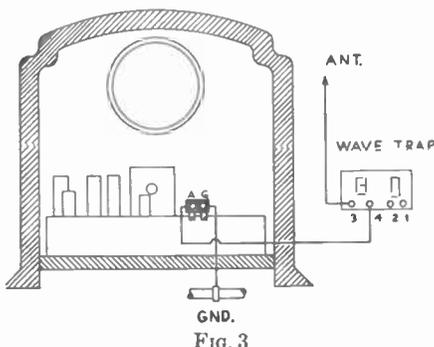

FIG. 3
*How To Adjust a Wave Trap.*—Connect the wave trap as shown in Fig. 3. First try connecting binding post 3 of the wave trap to the antenna lead-in and post 4 to the antenna terminal of the receiver. Now tune the receiver to the desired station, and at a normal setting of volume. Adjust the wave trap to the interfering station. You will find that the volume of the interfering station will decrease when the wave trap is tuned properly. Retune the receiver (selector dial only) so the desired station is heard the loudest, and readjust the wave trap for maximum interference elimination.